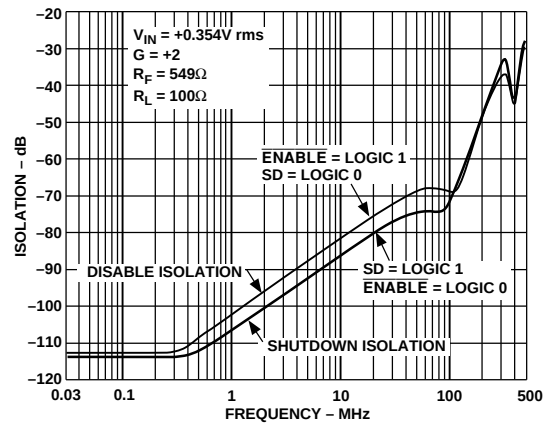

Figure 14. AD8174R Disable and Shutdown Isolation vs. Frequency
⁷AD8174 only. Shutdown (SD) pin is grounded. Mux is disabled, (i.e., $\overline{\text{ENABLE}} = \text{Logic 1}$) and all inputs are driven simultaneously with $V_{IN} = 0.354$ V rms. Output is monitored at $f = 5$ MHz and 30 MHz; $R_L = 100$ Ω. In this mode, the output impedance of the disabled mux is very high (typ 10 MΩ), and the signal couples across the package; the load impedance and the feedback network determine the crosstalk. For instance, in a closed-loop gain of +1, $r_{OUT} \approx 10$ MΩ, in a gain of +2 ($R_F = R_G = 549$ Ω), $r_{OUT} = 1.1$ kΩ (see Figure 14).
⁸AD8174 only. $\overline{\text{ENABLE}}$ pin is grounded. Mux is shutdown (i.e., SD = Logic 1), and all inputs are driven simultaneously with $V_{IN} = 0.354$ V rms. Output is monitored at $f = 5$ MHz and 30 MHz; $R_L = 100$ Ω. (see Figure 14). The mux output impedance in shutdown mode is the same as the disabled mux output impedance.